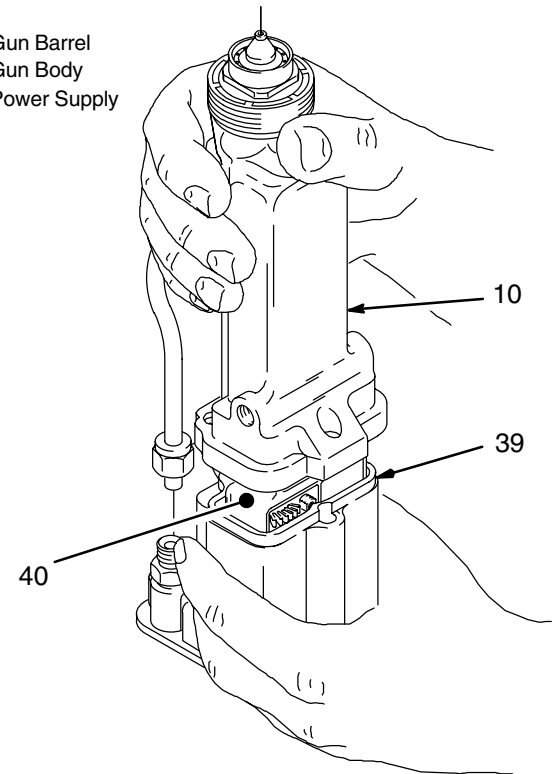

Fig 18
4. Hold the gun body (39) with one hand and pull the barrel (10) straight away from the body to remove it. See Fig 18 .